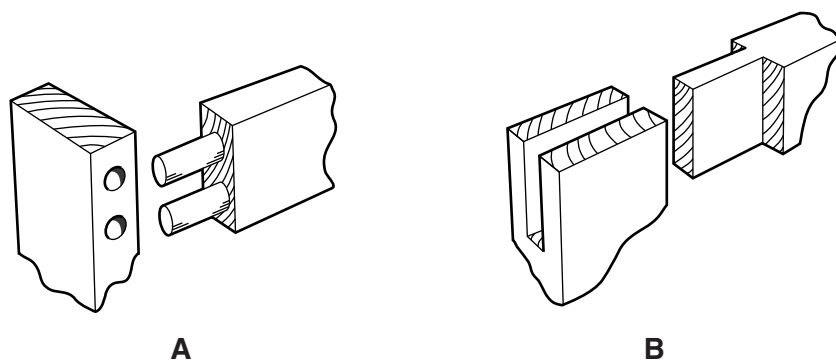

Fig. 3
- 5 Fig. 3 shows two wood joints labelled **A** and **B**.